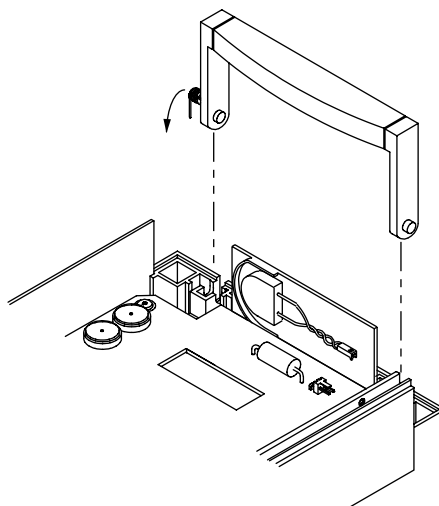

Figure 6-7: Installing the Handle
5. To install the handle, locate the small spring attached to one side. After all PCBs and side panels have been properly seated in the top chassis, install the handle into the cradle in a vertical position, as illustrated in Figure 6-7. Guide the spring into the molded channel located at the rear of the top chassis while leaning the handle to the inside of the unit. When properly seated, the handle will rotate out with a small amount of spring tension and naturally return to the vertical resting position.